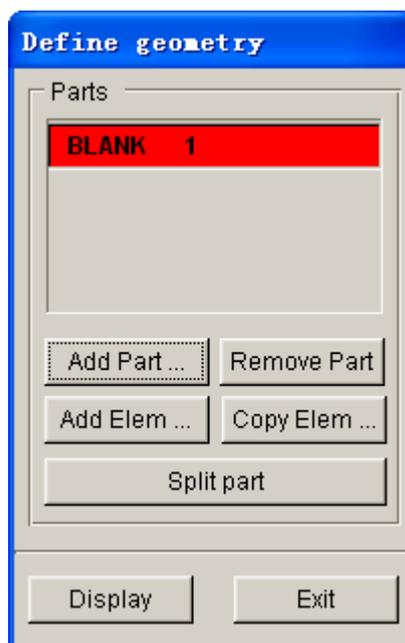

Figure 7.9 Blank geometry list
5. After selecting the part, click on **OK** button to return to the DEFINE GEOMETRY dialog box. The **BLANK** part is added to the list. See Figure 7.9.